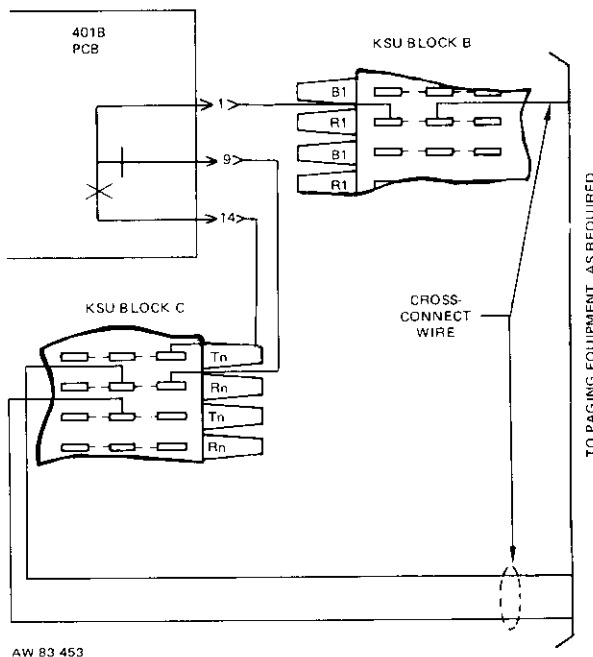

Figure 17: Connecting Details, Paging Equipment ON/OFF Control
- (e) For on/off control of the paging amplifier, connect KSU card connector pins 1, 9, and 14 as required. Use pins 1 and 14 for a make contact set. Use pins 1 and 9 for a break contact set. Pin 1 corresponds to terminal R1 for the KSU card connector on KSU block B. Pins 14 and 9 correspond to terminals Tn and Rn, respectively, for the KSU card connector on KSU block C. See Figure 17 for connecting details.